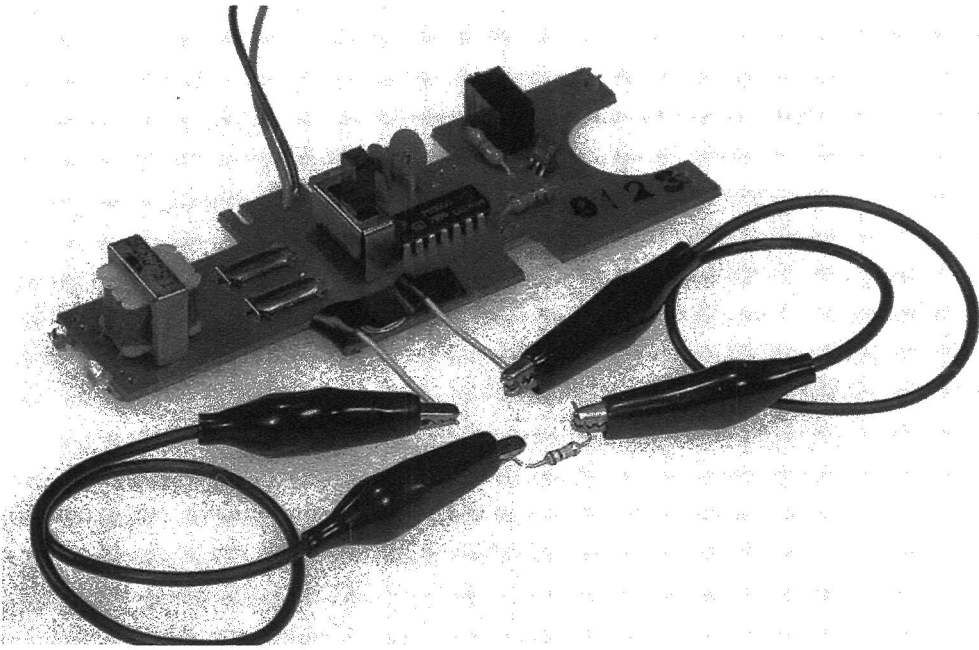

Figure 13.4 A remote resistor.
3. Attach a clip lead to the free end of each of the wires. Clip the resistor you removed between the other ends of the clip leads, effectively re-inserting it to the circuit (see Figure 13.4). If you didn't damage anything in de-soldering, the circuit should behave as it did before the operation. If it doesn't, you may need to “restart” the toy by removing and reinstalling the batteries (see Rule #12, on p. 90).